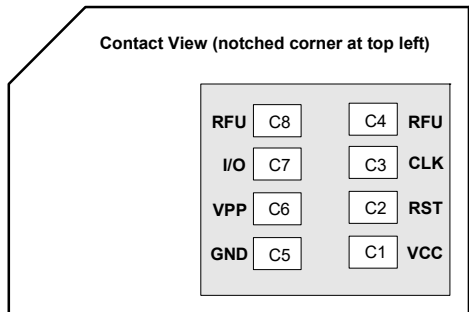

Figure 2-8: SIM Card Contacts (Contact View)
a. See Figure 2-8 on page 28 for SIM card contacts.